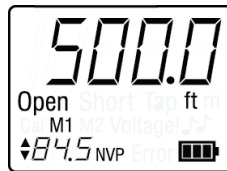

Figure 6. Calculated NVP Value
- Press the TEST mode button. The following updates occur in the LCD display screen (see Figure 6):